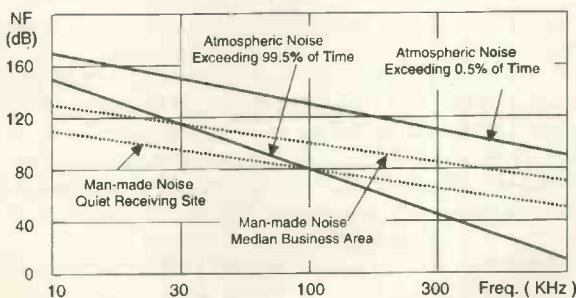

Fig. 6. Noise levels - atmospheric plus man-made.
5. Of course, man-made noise is also important, but it is unpredictable,¹³ Fig. 6.